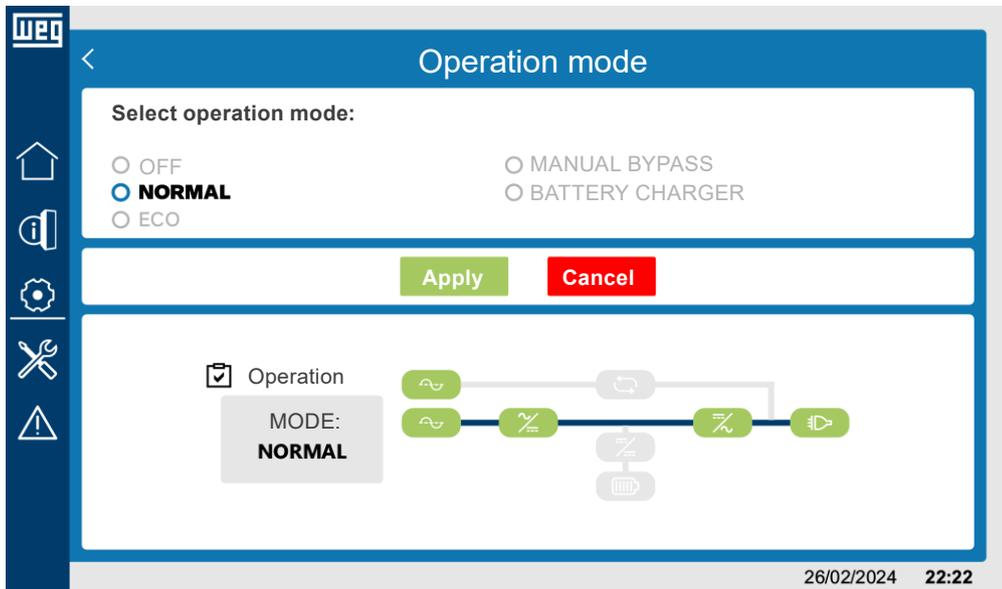

Figure 6.28: Synoptic diagram in normal operating mode without battery connected
- Normal mode without battery connected: Figure 6.28 on page 6-21.